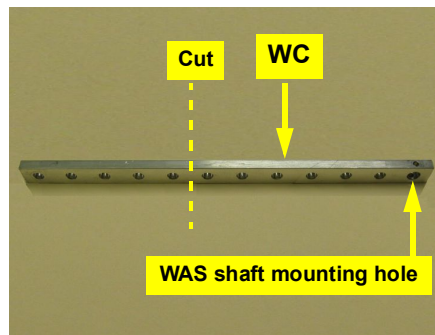

Figure 1b: WAS arm preparation
- Cut five holes off the WAS arm **WC** at the opposite end from the WAS shaft mounting hole (Figure 1b).